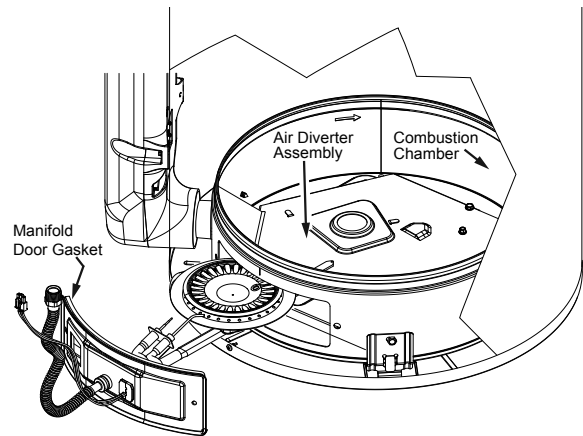

FIGURE 28.
6. Carefully remove the manifold assembly from the burner compartment. **NOTE:** Be sure not to damage internal parts (Figure 28).
2. Use a vacuum cleaner/shop vac to remove all loose debris in the combustion chamber (Figure 28). Use compressed air to clear any dust or debris that may have accumulated on the air diverter assembly.